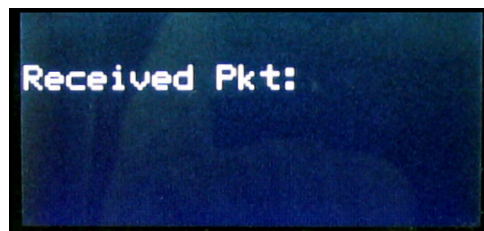

Figure 223: Sentinel LCT Screen
3. From the **Sentinel LCT FACTORY** menu, scroll to the Upgrade option and press **[ENT]** twice. The **Sentinel LCT** screen should appear as in *Figure 223* after approximately one minute, or
Power on the **Sentinel LCT**, and enter ESC-R from the PC keyboard. The **Sentinel LCT** screen should appear as in *Figure 223*.